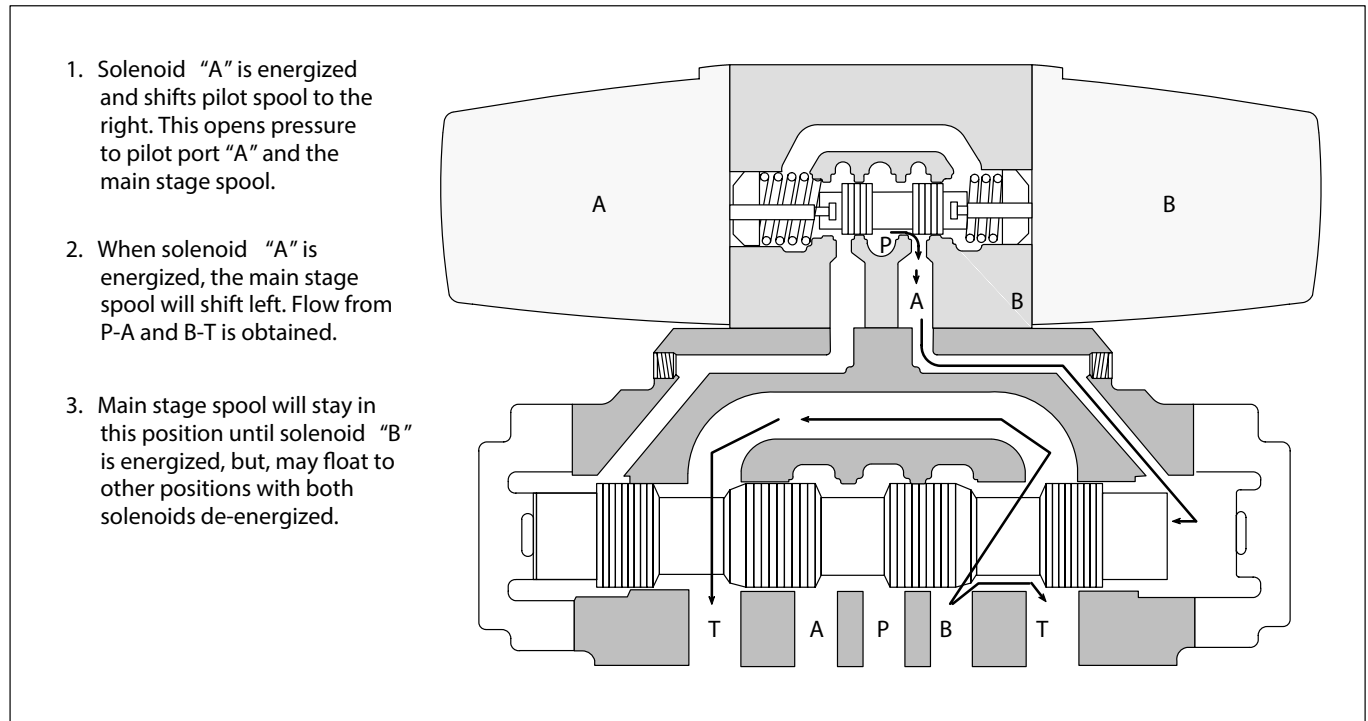

Figure 4. No Springs, Floating Model
3. **Integral Pilot Valve** : The integral pilot type two stage valve is a very common valve used in the field today. Two stage valves allow large volumes of fluid to be switched to and from an actuator with minimum power required for control. Reference Figures 4 through 8, shown in the following section.
1. **No Spring-Floating** : When centering springs are omitted from the main stage spool, the spool is said to be floating. If control pressure is removed, a floating spool can move from its last position under the influence of gravity or tank line pressure. This must be considered during the design of the system. Units with floating type spools have the model code letter omitted. (Example: DG3S4/DG4S4-062-**-51) Figure 4 illustrates floating spool positioning in a two-stage valve.